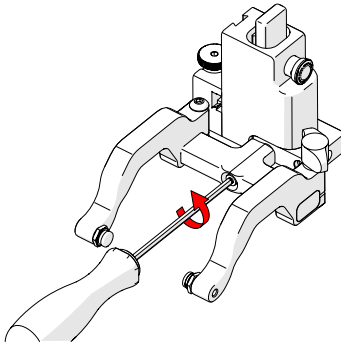

Fig. 54 - Remove yoke
1. Using the supplied 3 mm driver, unscrew the yoke (Fig. 54).
1. Remove the yoke using the supplied 3 mm driver (*Fig. 54*).